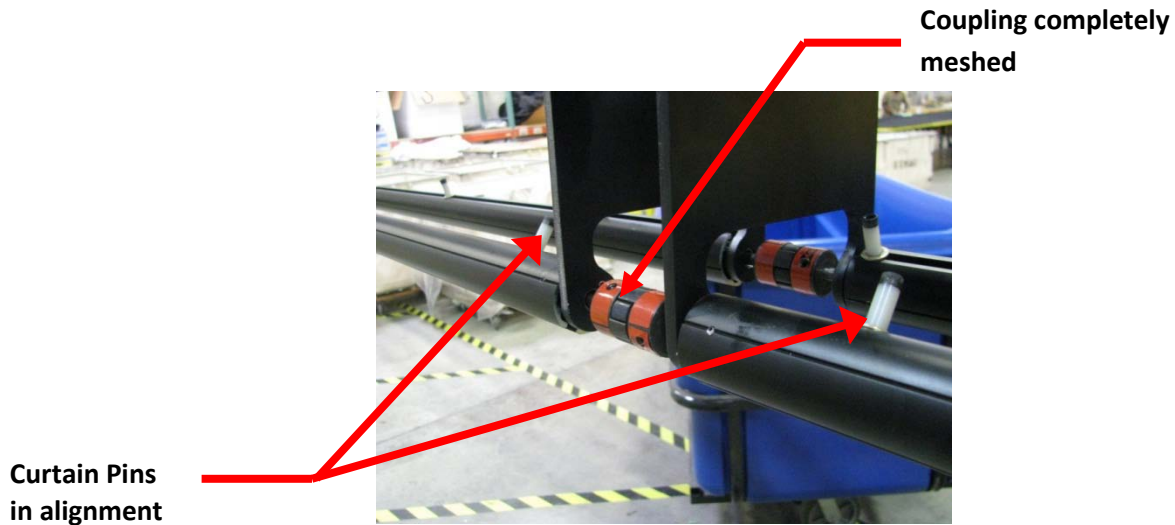

Figure 3
**Step 4:** Align **curtain pins** on **curtain rods** with one another (i.e. all pointing up) and push units together so the **couplings** are completely meshed, keeping **curtain pins** in alignment (refer to Figure 3). The **couplings** are preset at the factory and should not need adjusting, but if the **curtain pins** are out of alignment, adjust the angle by loosening the set screw on one side of the **coupling** with an Allen wrench (included); rotate the **curtain rod** so the **curtain pins** are in alignment and retighten the set screw. **You MUST make sure all set screws are tight before operating Kabuki units.**